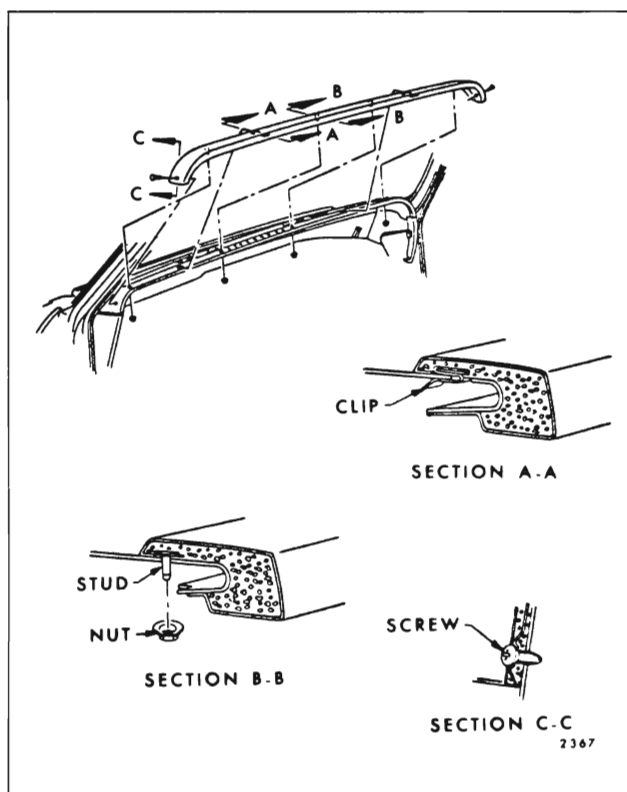

Fig. 5-16—Instrument Panel Cover - "A" Body
2. On "A" bodies, remove exposed screws on outboard ends of cover (Fig. 5-16).